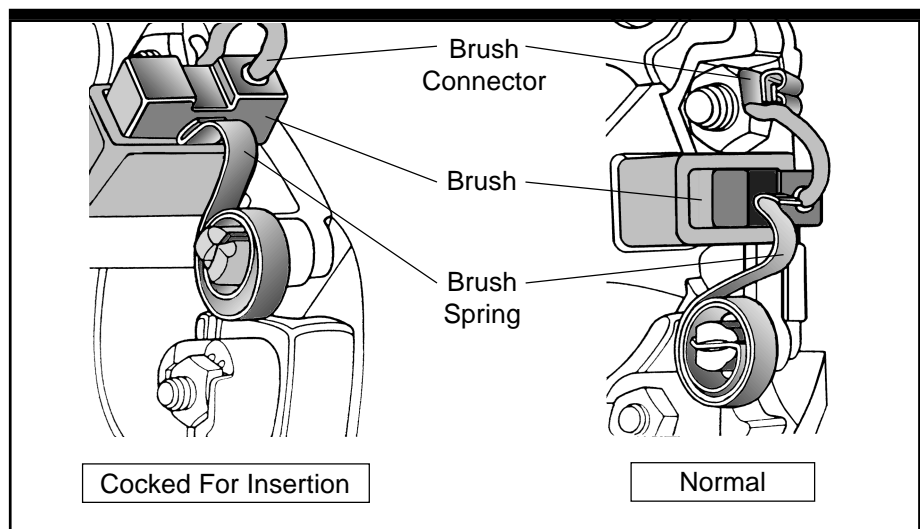

Figure 4-4. DC Motor Brushes (Gasketed Cover Removed)
Step 3—Replace Brushes. Lift the brush spring from the end of the brush (see Figure 4-4). Remove the brush connector, withdraw the brush and inspect the length. To prevent motor damage, brushes should be replaced when or before they reach a length of 0.575" (15 mm). New brush length is 1.03" (26 mm). Reverse procedure to replace brush. Replace motor access and feeder covers. Connect power and air. Initial and date the Maintenance Log.